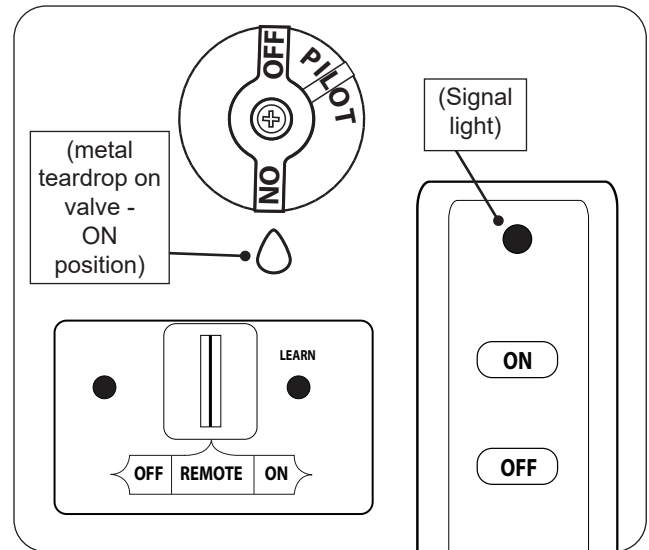

Fig. 40-1 Remote lighting
1. Ensure the pilot is burning. Turn the control knob counterclockwise ↶ to **ON** (see Fig. 40-1).
2. Locate the 3-position switch on the remote receiver, and slide the switch to **REMOTE** (see Fig. 40-1).
3. Locate the remote transmitter and press the **ON** button (see Fig. 40-1). The ignition sequence will begin.